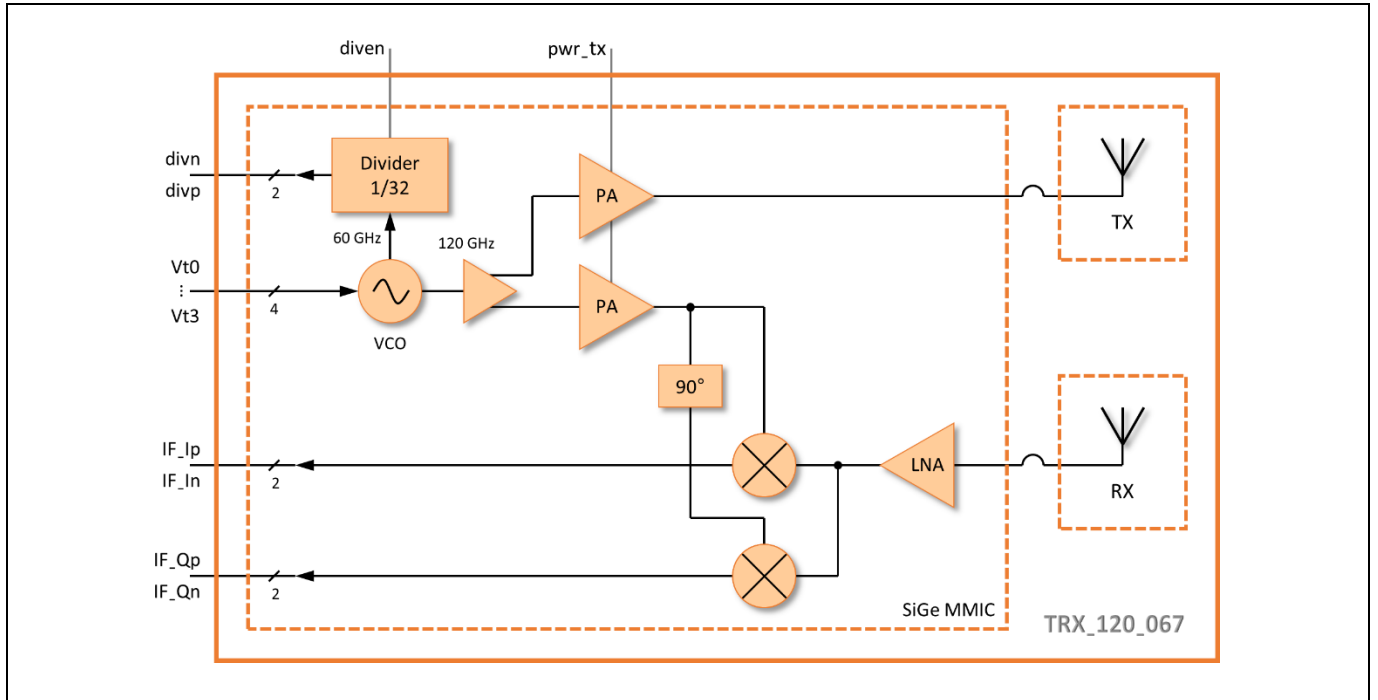

Figure 1 Block Diagram
The RFE is an integrated transceiver circuit for the 122-GHz ISM band with antennas in package. It includes a power amplifier (PA), low-noise amplifier (LNA), quadrature mixers, a poly-phase filter, a voltage-controlled oscillator, divide-by-32 outputs and transmit and receive antennas (see Figure 1). The RF signal from the oscillator is directed to both, the TX path via PA, and to the RX path via buffer circuits. The RX signal is amplified by the LNA and converted to baseband by two mixers with quadrature LO signal. The 120-GHz VCO has four analog tuning inputs with different tuning ranges and tuning slopes. The tuning inputs can be combined to obtain a wide frequency tuning range. The analog tuning inputs together with integrated frequency divider and external fractional-N PLL can be used for frequency modulated continuous wave (FMCW) radar operation. With fixed oscillator frequency it can be used in continuous wave (CW) mode. Other modulation schemes are possible as well by utilizing analog tuning inputs. The IC is fabricated in a SiGe BiCMOS technology.